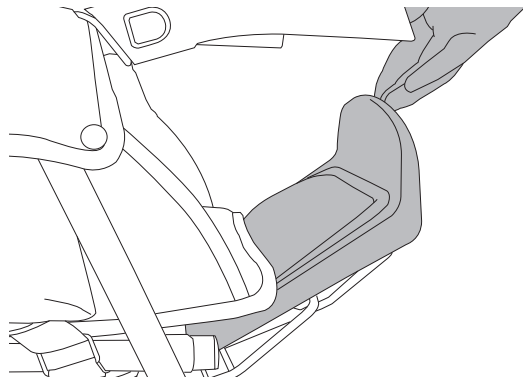

Figure 15
- To place the footrest into the down position, pull up on the footrest to release the bar from the slot. Lower the footrest slightly while moving the bar into the LOWER slot of the plastic bracket on BOTH sides of the footrest. See Figure 15.